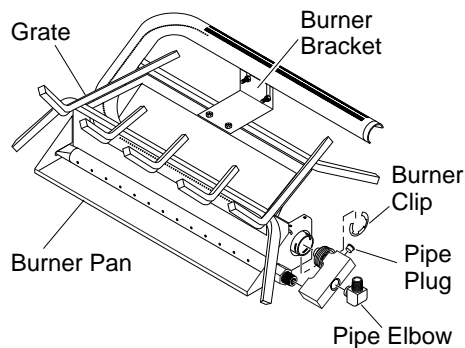

Figure 9 - Installing Burner
7. Place the grate assembly over the burner pan. Install the rear burner bracket onto the grate with the 2 black Phillips head #10 screws provided. Do not tighten at this time (see Figure 9).
8. Install the "U" burner from the left side with the open end in the front (see Figure 9). Hold the rear of the burner higher than the bracket. Slide the burner over the air restrictor fitting. Lower the rear of the burner into the slots on the burner bracket and tighten the nuts and screws.